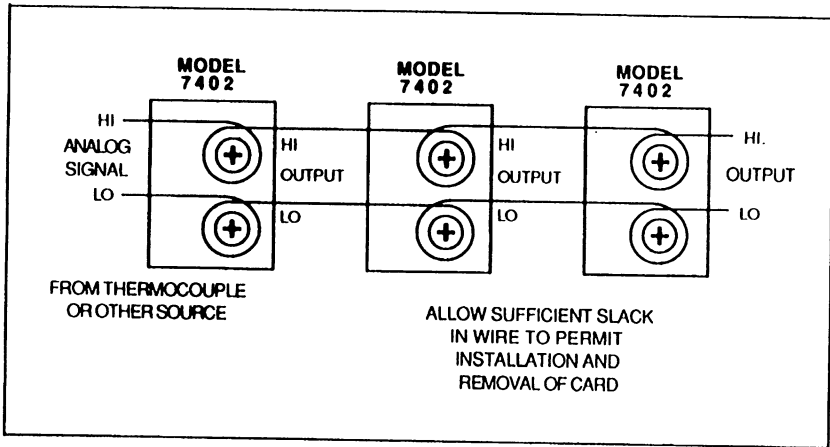

Figure 2-2. Multiple Channel Analog Connections
6. For systems using two or more Model 7402s, the output HI and LO connections should be made with continuous copper wires. This ensures that the number of copper-to-copper junctions is minimized and therefore unnecessary thermal effects are avoided. Figure 2-2 shows the method of continuous board-to-board connections.